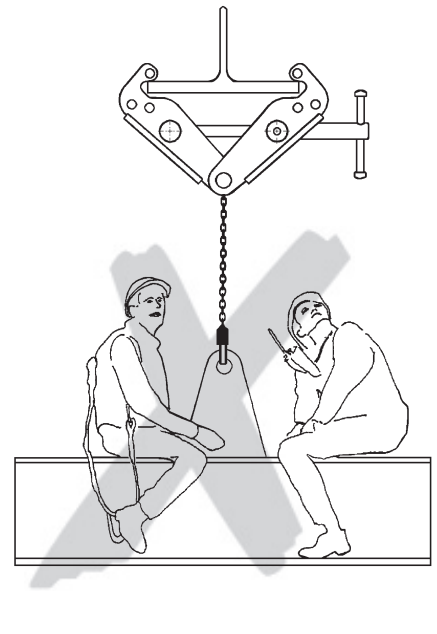

Fig. 5
- Do not use the load lifting attachment for the transportation of people (Fig. 5).